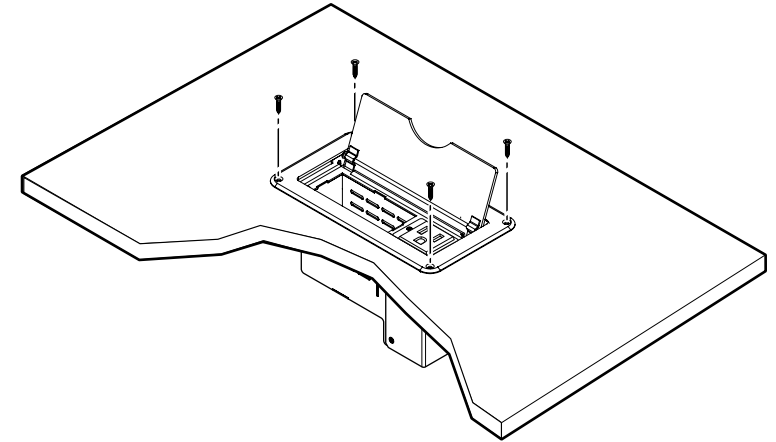

Figure 2-8 — Cable Cubby, installation view
- Cable Cubby 200** — Use the four included #6 wood screws to secure the Cable Cubby 200 to the table (figure 2-8).